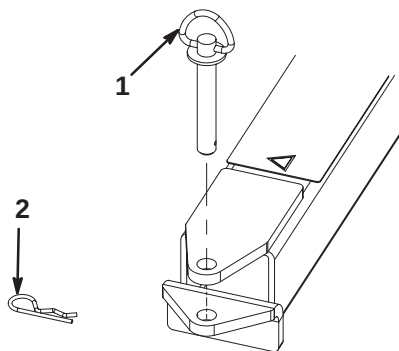

Figure 8
4. Connect sweeper hitch tongue to tow vehicle hitch with the hitch pin and hair pin cotter (Fig. 8).